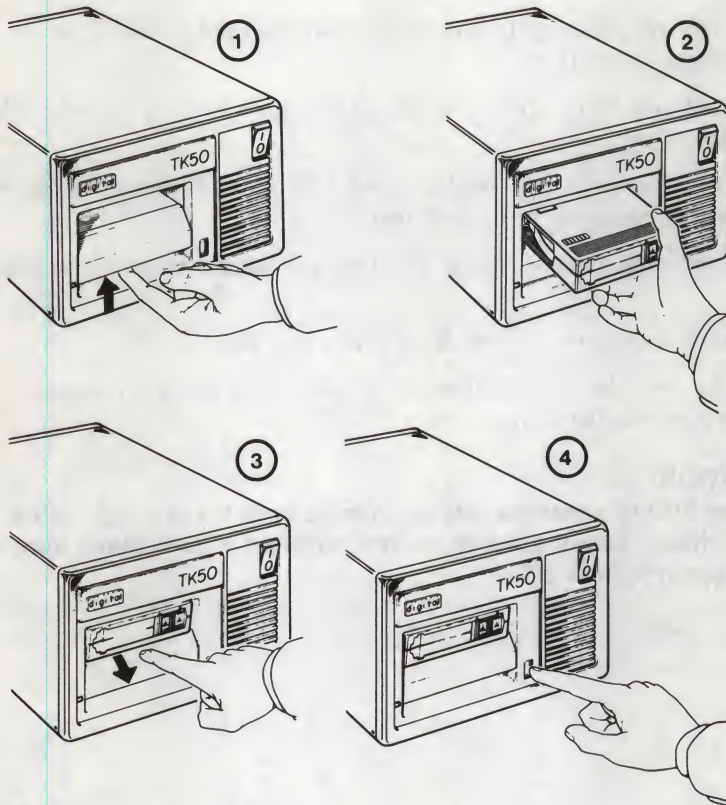

Figure 2-5 Inserting and Removing a Tape Cartridge
- Set the TK50 subsystem power switch to 1 (ON), then set the computer power switch to 1 (ON).
- Lift the cartridge release handle (Figure 2-5).